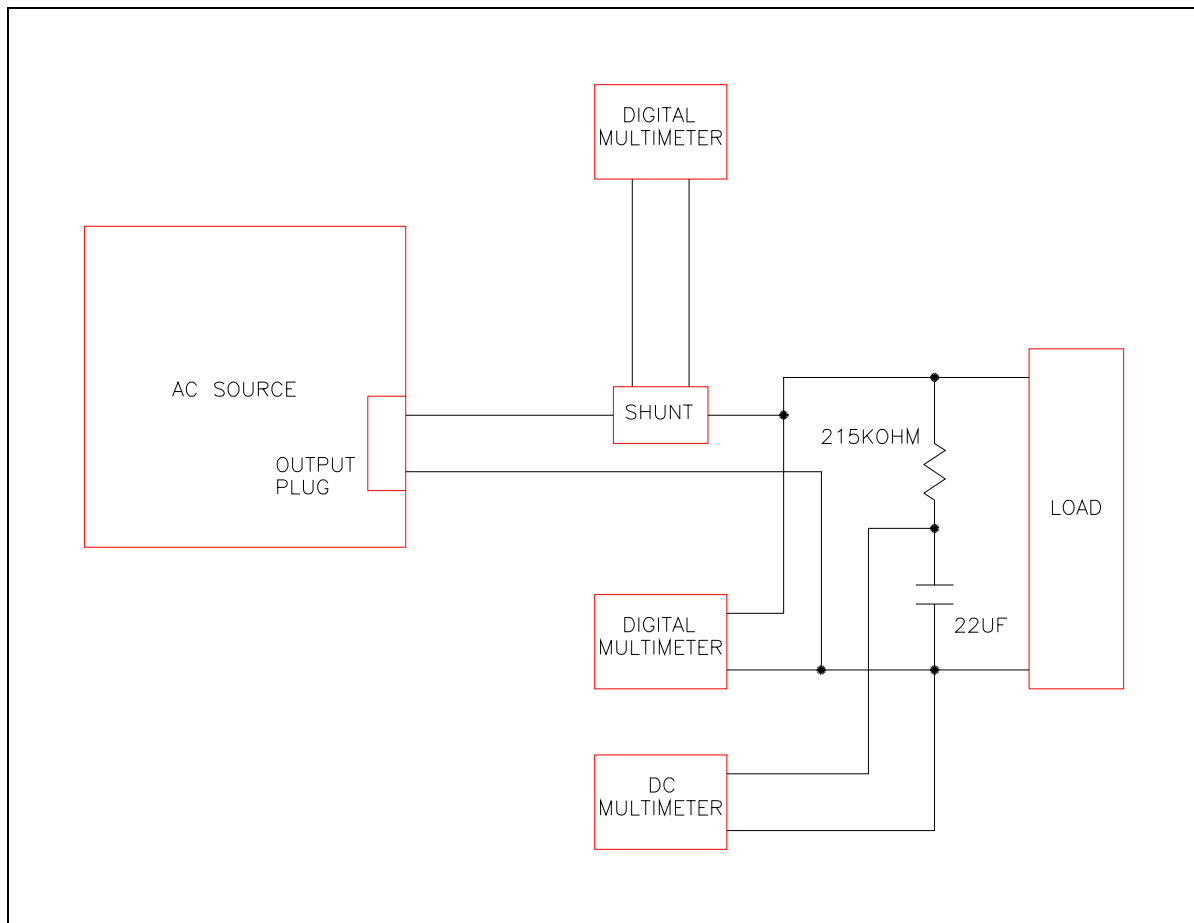

Figure 6-2: Test Equipment Hook-up for Measurement Calibration
1. Connect the test equipment to the power source as shown in Figure 6-2.
2. Measure the DC offset at the output using a Fluke 8840 or equivalent. Verify that offset is less than  $\pm 0.025V$ . Measure the DC voltage across a 22  $\mu f$  capacitor connected to the output through a 215K resistor. Refer to Figure 6-2.